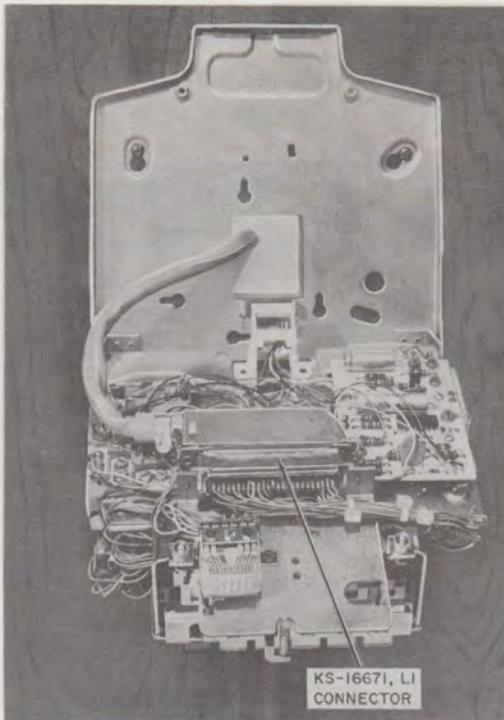

Fig. 3—853AM or 2853AM Telephone Set With Hinged Chassis Assembly in Lowered Position
that options are installed before the telephone set is connected. To expose the mounting holes, the hinged chassis assembly must be lowered by loosening the captive screws (Fig. 3) holding the top of the chassis. For ease of installation the chassis assembly can be removed from the base pan by springing the hinged brackets sufficiently to clear the pins. The base pan can be mounted directly to the wall using the keyhole slots, or holes provided for mounting over an electrical outlet box.
3.04 The 853AM and 2853AM telephone sets are equipped with a KS-16671L1 connector. An A25B connector cable is required to connect set to key equipment. Check before restoring chassis assembly that sufficient slack is provided to permit proper hinging action (Fig. 3).
- (1) If chassis assembly is in lowered position, raise and fasten in place with two captive screws (Fig. 3).
- (2) Install collar on key.
- (3) Withdraw the two mounting screws until they are held in the housing by their threads. With both line switch plungers fully lifted, move the housing directly into position around the telephone set, making sure that the two left housing ribs fit into the corresponding slots on the network and terminal board assembly. Depress both plungers to their on-hook position.
4.02 Sets are equipped with the KS-16671L1 plug (Fig. 3). An A25B connector cable is required for termination.